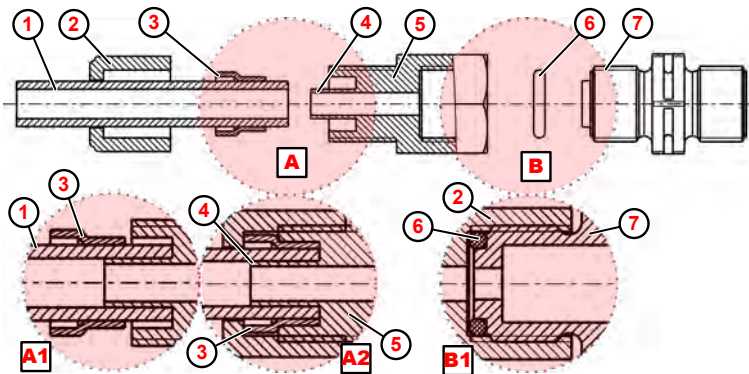

Fig. 7: Pipe and hose connection with integrated support sleeve
1. Place the o-ring ( Fig. 7 , ⑥ ) in the groove of the suction or pressure valve ⑦ .
2. Tighten the screw connection ⑤ (for details, see B1 ).
3. Cut off the hose with a straight cut ① .
4. Slide the union nut ② over the hose ① .
5. Slide the clamping ring ③ over the hose ① .
6. Slide the hose ① over the support sleeve ④ until it engages (for details,: A1 ).
7. Tighten the screw connection ⑤ (for details, see A2 ).